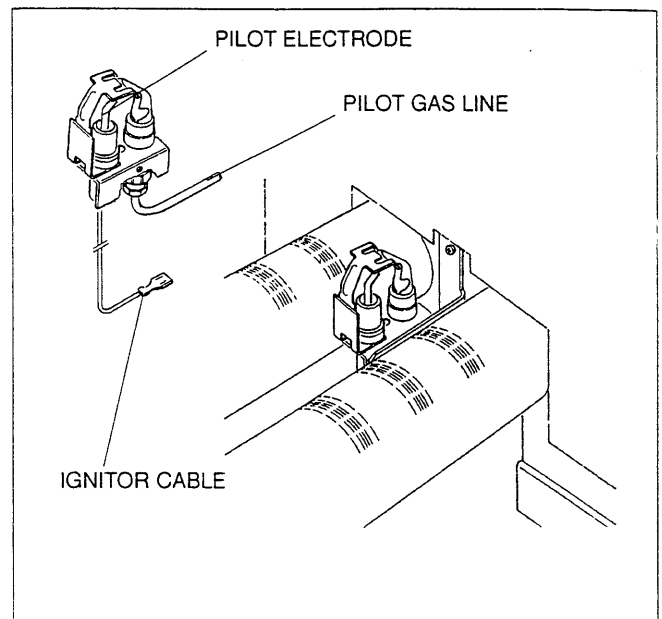

Fig.6: Pilot Assembly
17. Disconnect the pilot gas line from the pilot assembly, fig. 6.
21. Verify the pilot hood to main burner relationship shown in fig 6.